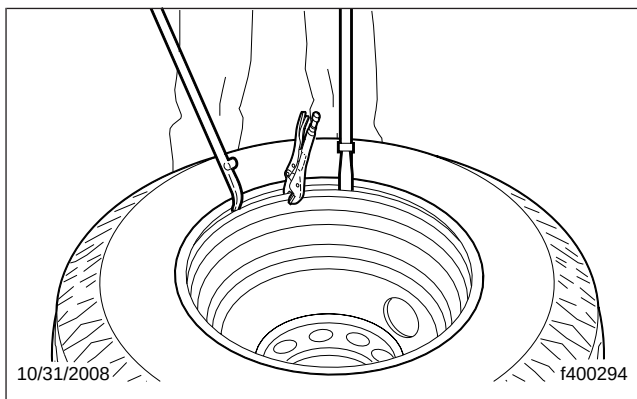

Fig. 6, Working the Upper Bead into the Wheel
- 4.2 Using the spoon end of the tire iron, with the stop toward the wheel, work around the bead. See Fig. 6. Work small sections, until the bead slips over the flange and into the wheel well.